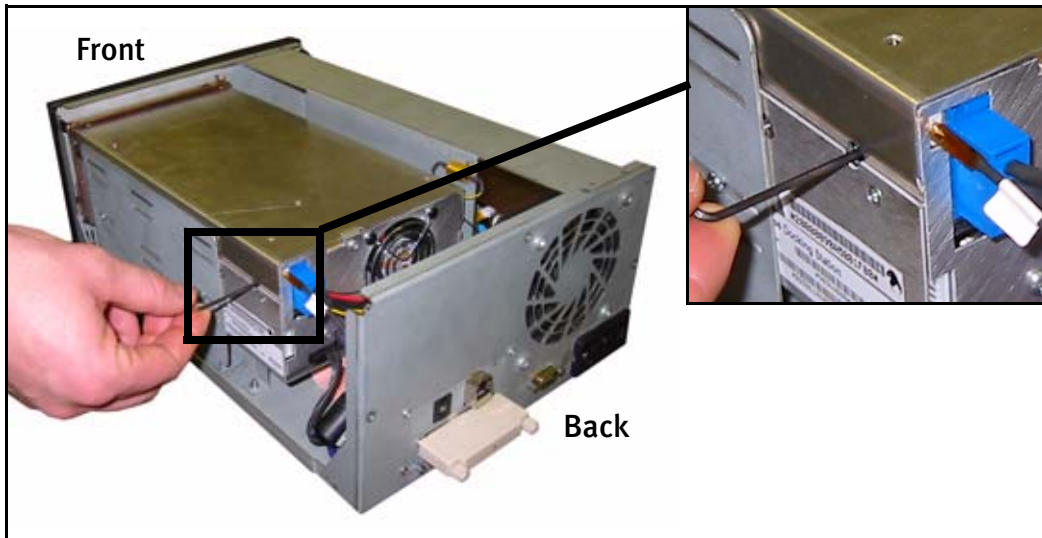

Figure 2-5 The hole on the right side of the unit.
8. Locate the hole on the side of the RXT150. When you are looking at the front of the unit, this hole is on the right side, near the back of the unit (Figure 2-5).